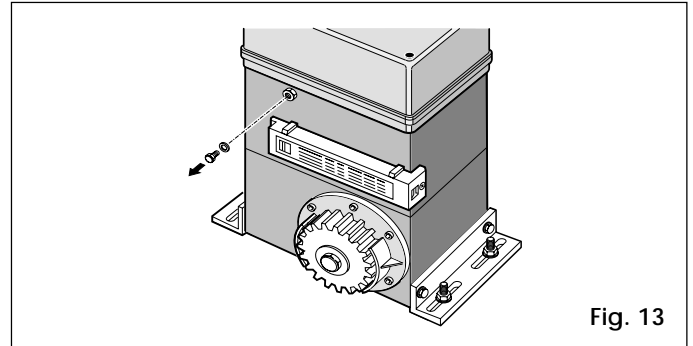

Fig. 13
- 7) Remove the breather screw as shown in Fig. 13 and keep it in a safe place.